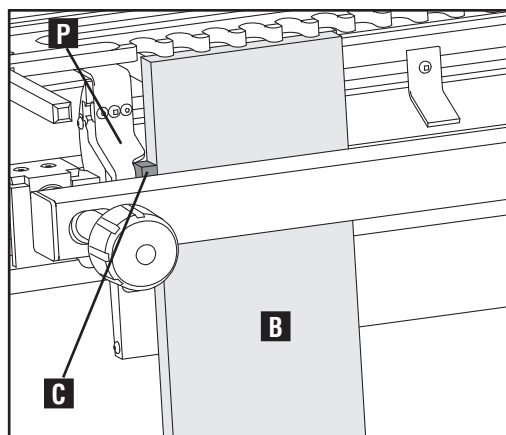

Fig. G11
2. Position the tailboard (B) Fig. G11 vertically and make sure it is spaced below the fingers with even gaps, as described in the "Single-Pass Half-Blind Dovetails."
3. After the tailboard (B) is positioned and firmly up against the template, place and hold spacer setup block (C) against the tailboard. Then, slide left edge guide (P) into place and lock it in flush with the spacer.
4. Slide horizontal scrap forward, flush with left edge guide (P) and flush with back of vertical tailboard (B) to help reduce tearout.